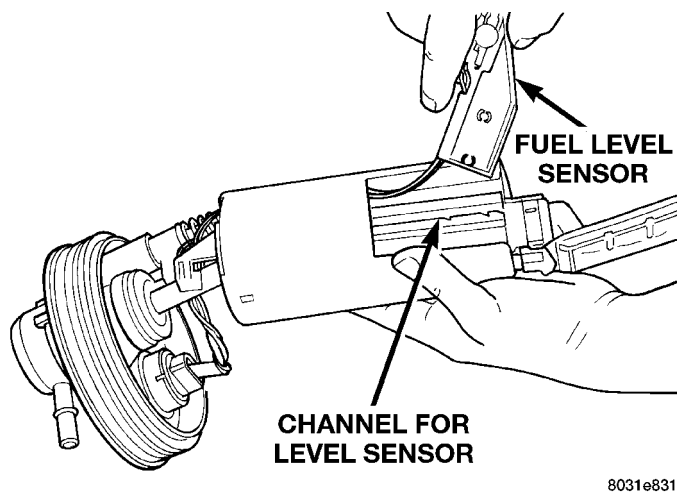

Fig. 26 Loosening Level Sensor
(5) Insert a screwdriver between the fuel pump module and the top of the level sensor housing (Fig. 26). Push level sensor down slightly.
(1) Insert level sensor wires into bottom of opening in module.
(2) Wrap wires into groove in back of level sensor (Fig. 26).